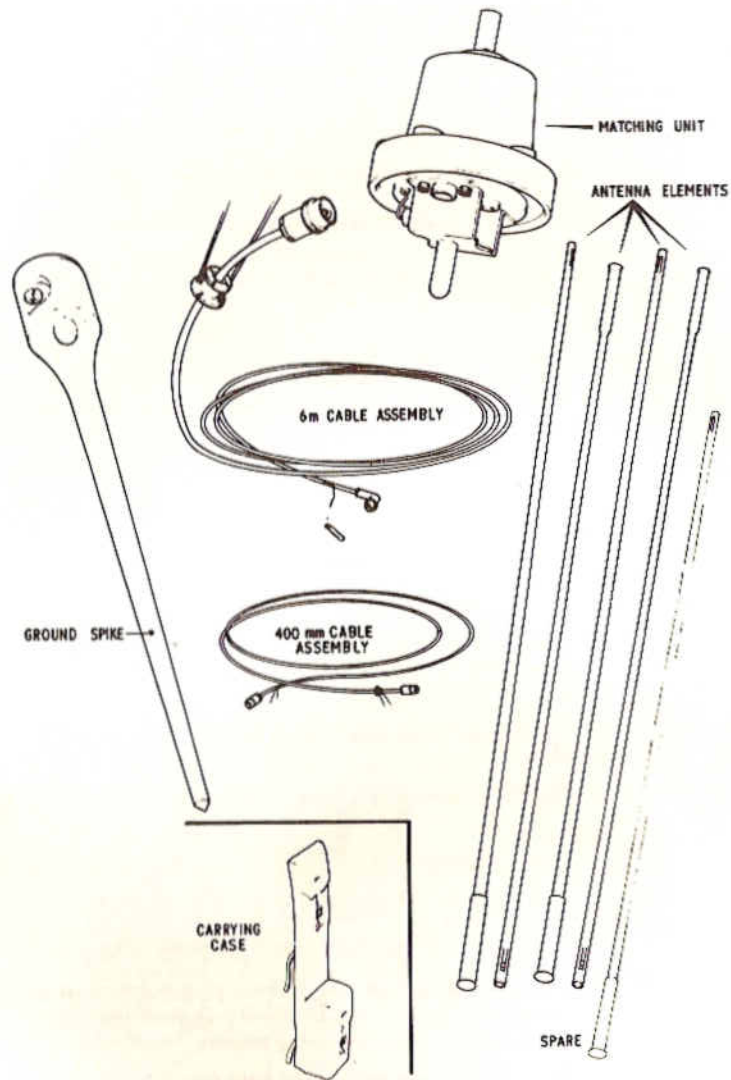

Fig.21 Items Forming VHF Ground-Spike Antenna Assembly
3. The Antenna (Fig.21) consists of a rod radiator, matching unit, ground-spike and connecting cables. The rod radiator is provided by four identical elements (together with one spare element) which plug into each other and into the top of the matching unit. The number of elements used depends upon the frequency band to be covered. A fabric carrying case (page 44) is provided to house the antenna.